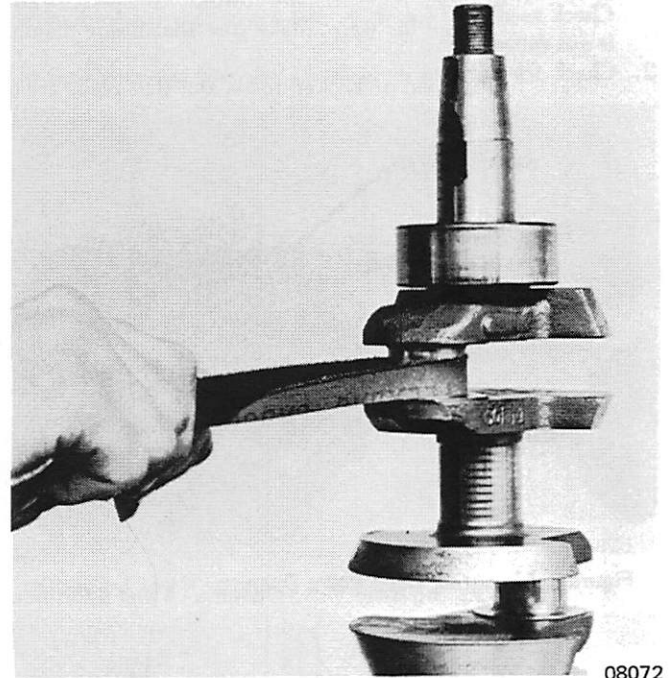

Figure 2. Cleaning Crankshaft Journals
2. The crankshaft journal can be cleaned, if necessary, by using a 320 grit carborundum cloth. DO NOT polish crankshaft journals, or bearings will slide. (Figure 2)